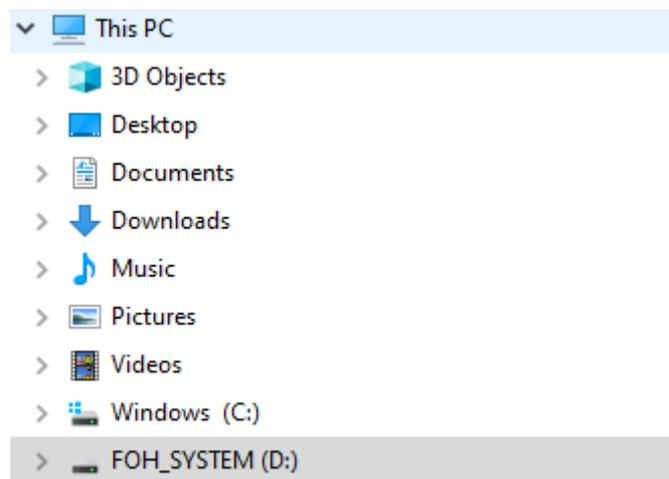

Figure 16. Example of FOH_SYSTEM drive visible on file explorer as drive D.
- 2) Following procedure detailed in step 1). Ensure the system storage drive is discoverable via the windows file explorer. The system drive should be accessible and have the name 'FOH_SYSTEM' (Figure 16). If it is not discoverable, please consult the '**Supplier details**' section of this manual to get in touch.